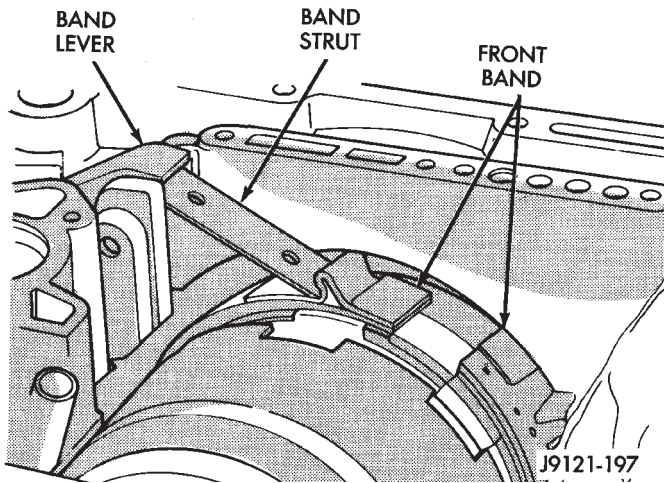
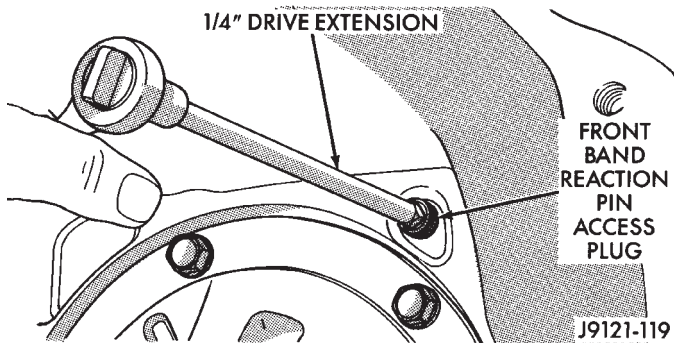

Fig. 153 Front Band Linkage Installation
Fig. 154 Installing Front Band Pivot Pin Access Plug
(3) Install front band lever, strut, lever pin and adjusting screw (Fig. 153).
(4) Tighten front band adjusting screw until band just grips clutch retainer. Verify that front/rear clutches are still seated before continuing.
(5) Coat band lever pin access plug with sealer and install plug in converter housing (Fig. 154).